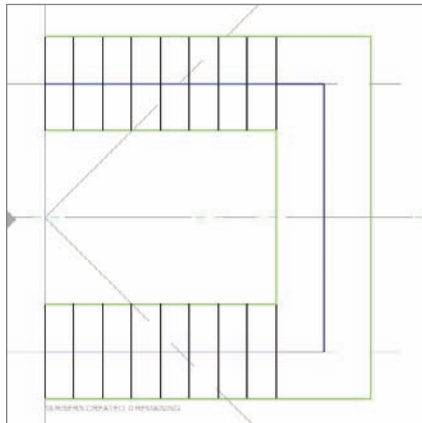

FIGURE 10.6 The stairs have been laid out.
14. Once you see the second flight completed, pick the last point. Revit will draw both flights as well as the landing (see Figure 10.6).